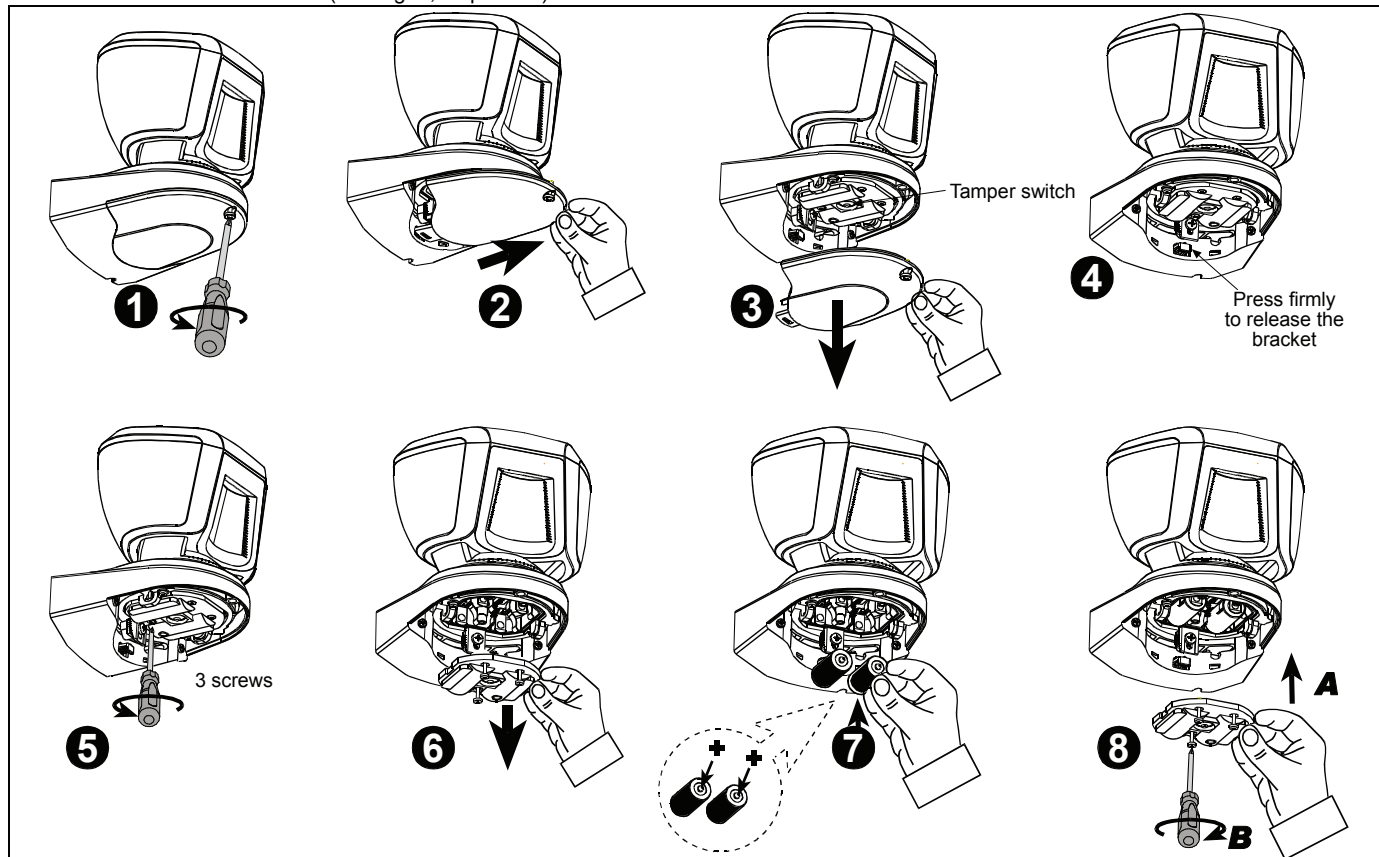

Figure 3 – Battery Insertion
Remove the 2 detector's bottom covers (see Figure 3, steps 1-5) to gain access to the DIP switches. Set the DIP switches according to Table 1:
3.2 Battery Insertion (Figure 3)
Enroll the detectors into the alarm system's memory as described in the alarm system installer guide – ENROLLING section. When you are instructed to initiate transmission from the detector. Activate the tamper switch, i.e. open the detector bottom cover (see Fig. 3, steps 1 - 3) and then close it.
Open the detector bottom cover (see Fig. 3, steps 1 - 3) and then press and release the tamper switch. The LED will flash for 30 seconds and then the detector will enter into 15 minutes walk-test mode.